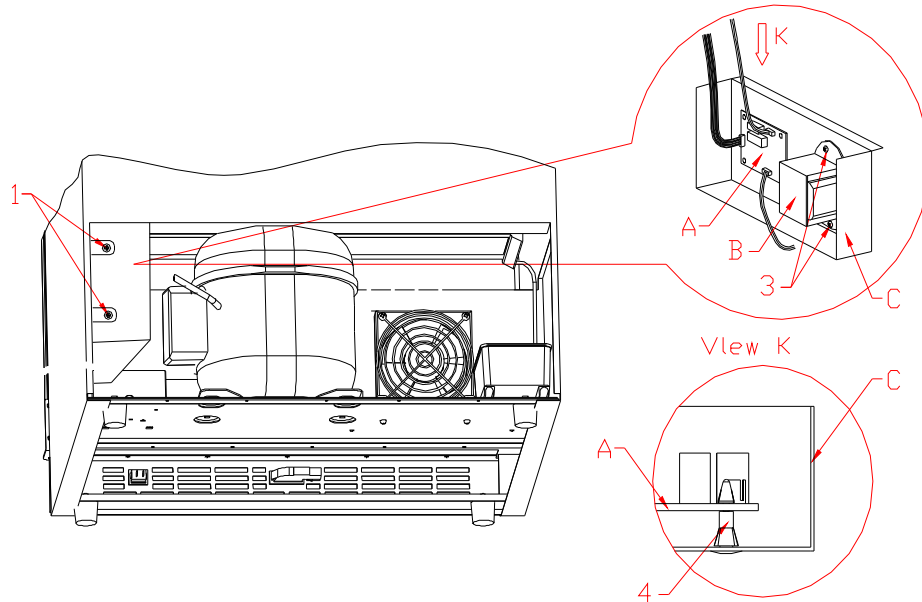
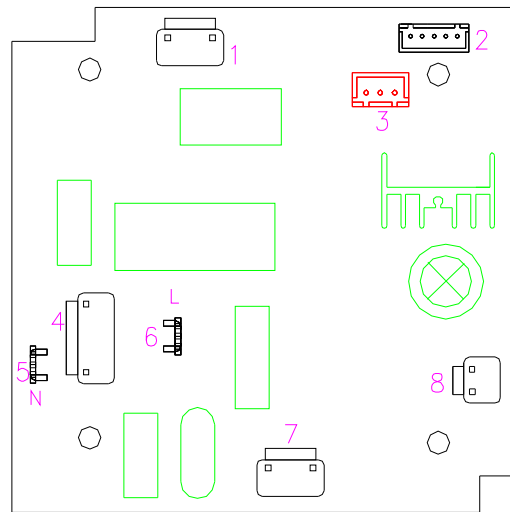

Fig.21
Fig.22
model 2: PCB board divide into 2 blocks, the main PCB board is in the electrical box(Fig.22),the other power PCB board is in the left of the compressor’s box with the transformer. (Fig.21)
- a. Remove the two screw(1) that fixing the electrical box for power PCB (Fig.21).
- b. Remove the the electrical box(C) for power PCB (Fig.21).
- c. Unplug all the connector, press the 4 studs (4) one by one. Updraw the power PCB board(A), and draw off the PCB board, , replace it with the same model's PCB board. (Fig.21) (Vlew K)
- d. Remove two fixing screw(3) of the transformer (B) , take off the tranformer (B) for replacement. (Fig.35),Divide version control panel connections (Fig.21)
Diagram of the power PCB (Fig.22)